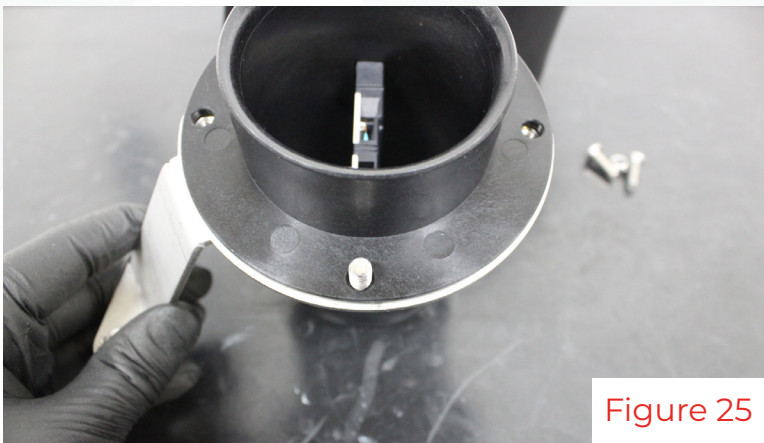

Figure 25
13. Repeat the previous step to assemble the passenger side (fig 25 & 26).